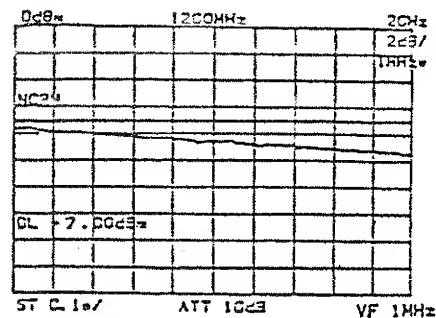

Figure 4-36 Cable Loss Characteristic
- ⑦ Then, the measured waveform is displayed apart from the display line according to the cable loss (Figure 4-36).